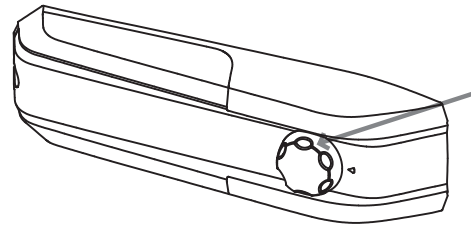

Fig. 1
- The thermostat unit for control of the appliance is located inside of the refrigerator compartment (Fig. 1).